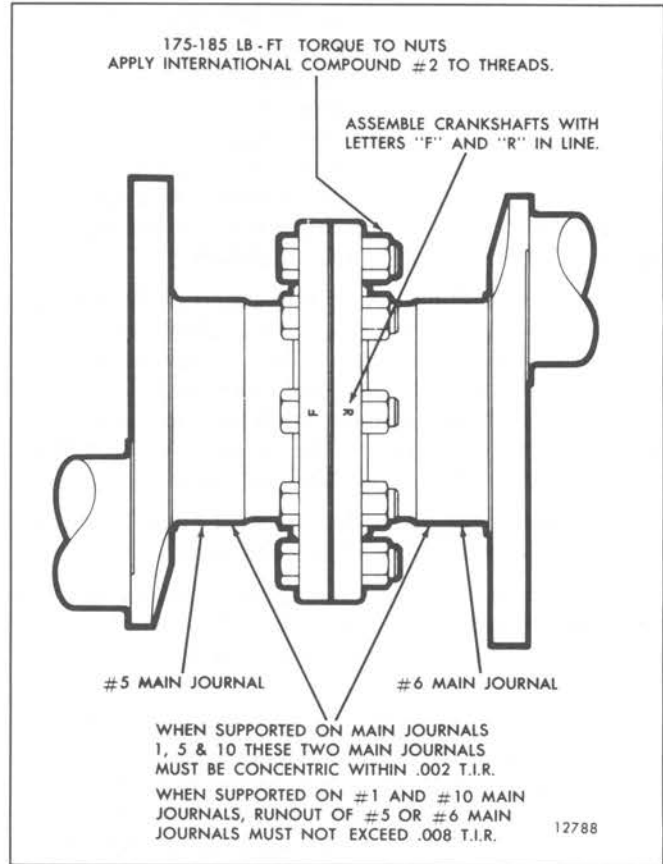

Fig. 9 - Two-Piece 12V-92 and 16V-92 Crankshaft Assembly Instructions
- Rotate the crankshaft halves until the crankshaft assembly marks "F" and "R" are in alignment on the two crankshaft end flanges and install four of the bolts and nuts 90° apart (Fig. 9).
- Check the crankshaft end play by moving the crankshaft toward the gage with a small (less than 12") pry bar (Fig. 9). Keep a constant pressure on the pry bar and set the dial indicator to zero. Then, remove and insert the pry bar on the other side of the bearing cap. Force the crankshaft in the opposite direction and note the amount of end play on the dial. The end play should be .004" to .011" with new parts or a maximum of .018" with used parts. Insufficient end play can be the result of a misaligned rear main bearing or a burr or dirt on the inner face of one or more of the thrust washers.